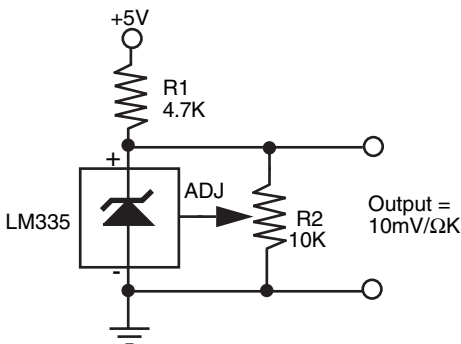

FIGURE 34-4 The basic wiring diagram for the LM355 temperature sensor.
Fig. 34-4 shows a basic but workable circuit centered around an LM355 temperature sensor (it and the other parts in the circuit are listed in Table 34-2). This device is relatively easy to find and costs under \$1.50. The output of the device, when wired as shown, is a linear voltage. The voltage increases 10 mV for every rise in temperature of 1° Kelvin (K).